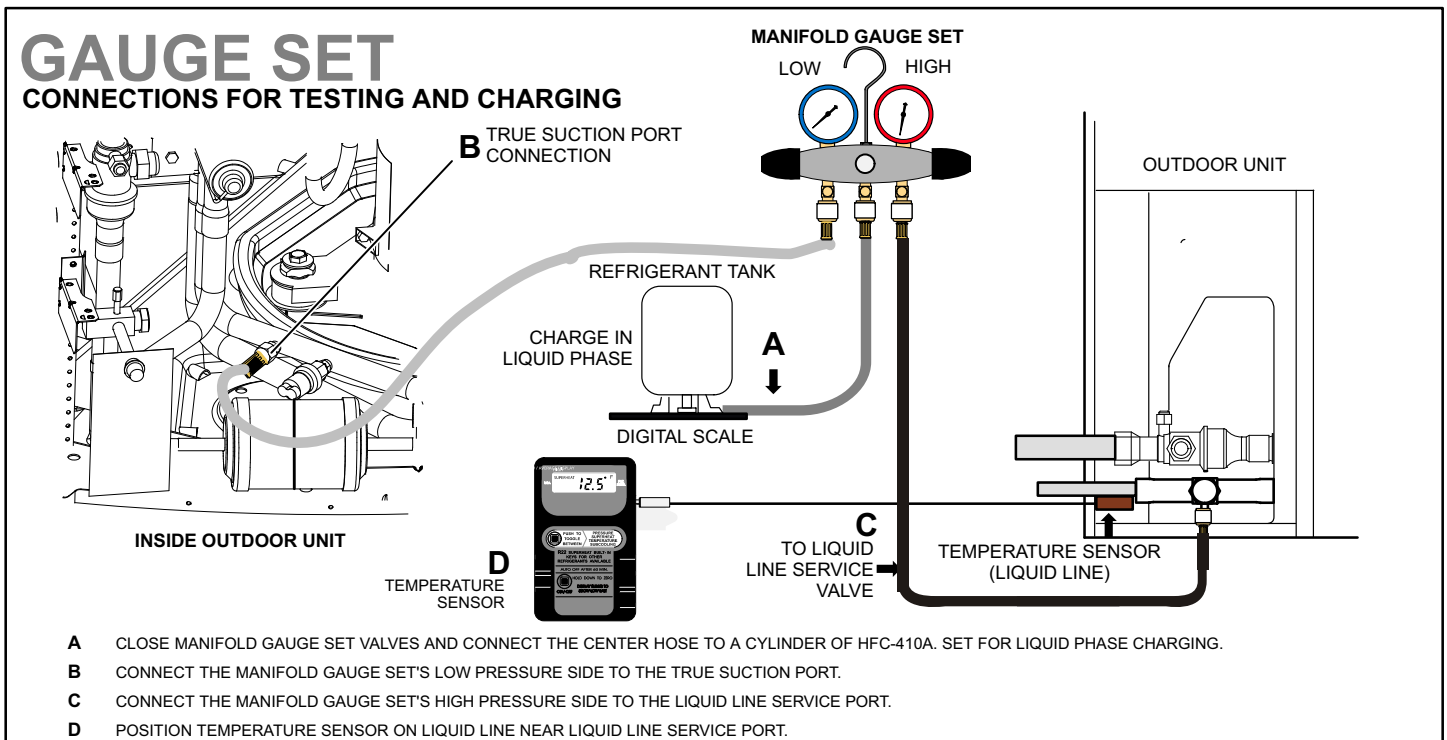

Figure 63. Gauge Set Connections
1. Connecting gauge set for testing and charging as illustrated in figure 63.